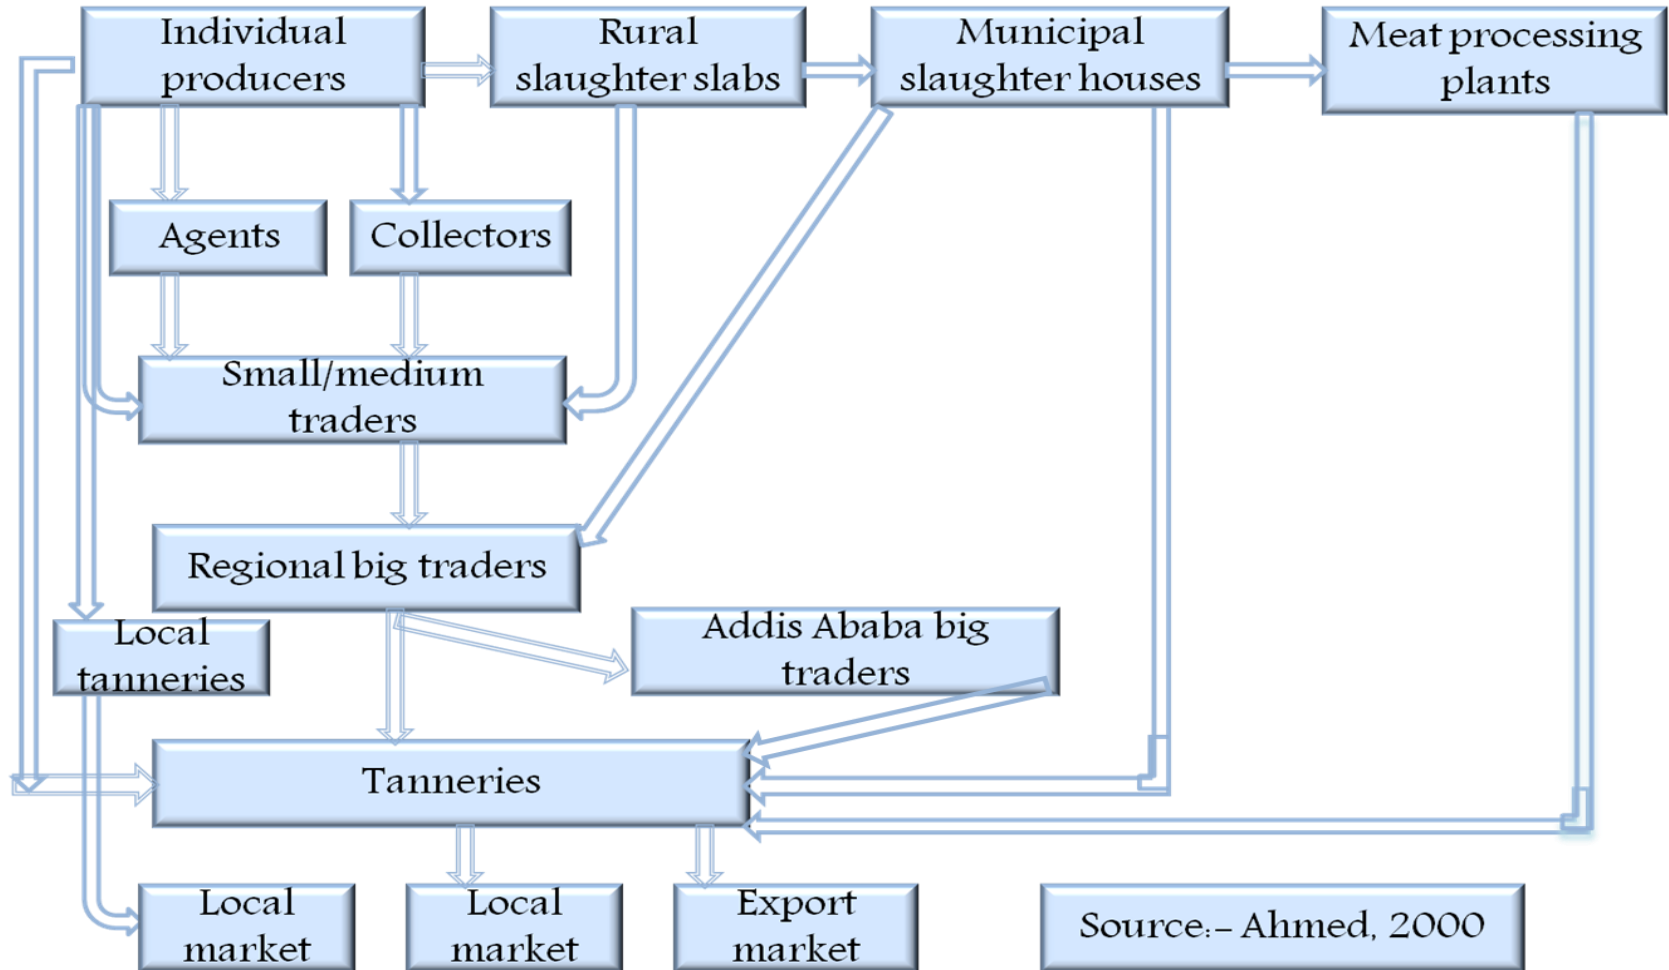

Figure 7:- Ethiopian hides and skins market structure flow chart
➤ The marketing of hide and skin starts at the producer/consumer level and passes through a chain of middlemen until it reaches the tanneries (Fig.7).
- Fig.7 (Ahmed, 2000).